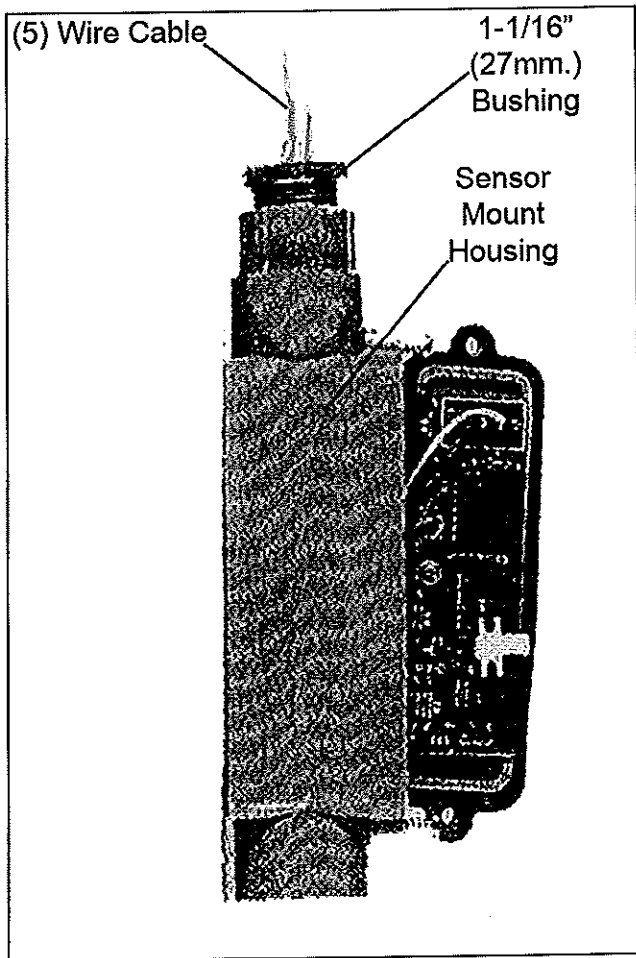

Figure 3—Weather Sensor
- D. The Moisture Monitor may need to be calibrated to compensate for different grains and sensor configurations. Make sure that the calibration is set at zero before comparing the displayed moisture values with the samples tested with a reliable moisture tester. See Figure 3, Moisture Monitor sampling chart.
A weather sensor is supplied with the printer, but must be installed by the customer when dryer installation is completed. **See Figure 3**